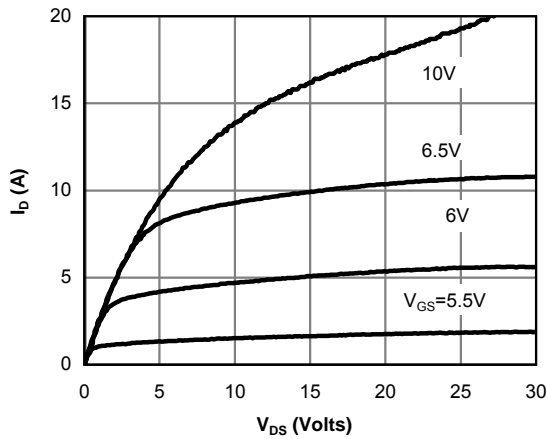

Fig 1: On-Region Characteristics
E. The static characteristics in Figures 1 to 6 are obtained using <300 μs pulses, duty cycle 0.5% max.